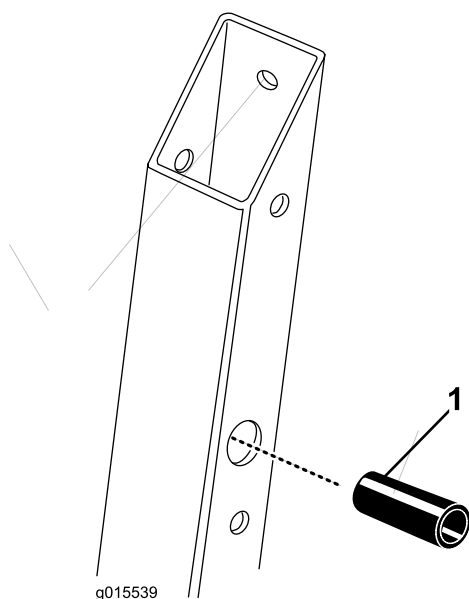

Figure 6
1. Insert the cylindrical spacer in the pivot holes in both rollbar supports (Figure 6).